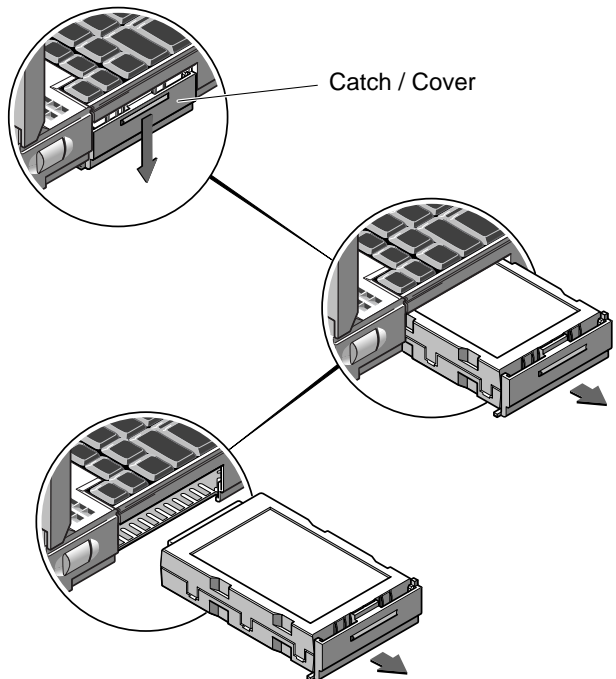

Figure 6-1 Removing the Hard Disk
2. Slide the hard disk's catch downwards, as shown in Figure 6-1.